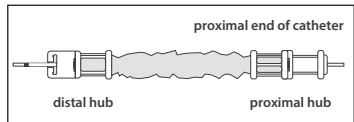

Figure 4
- Insert tip of desired catheter through proximal end of catheter contamination shield. Advance catheter through tubing and hub at other end (refer to Figure 4).